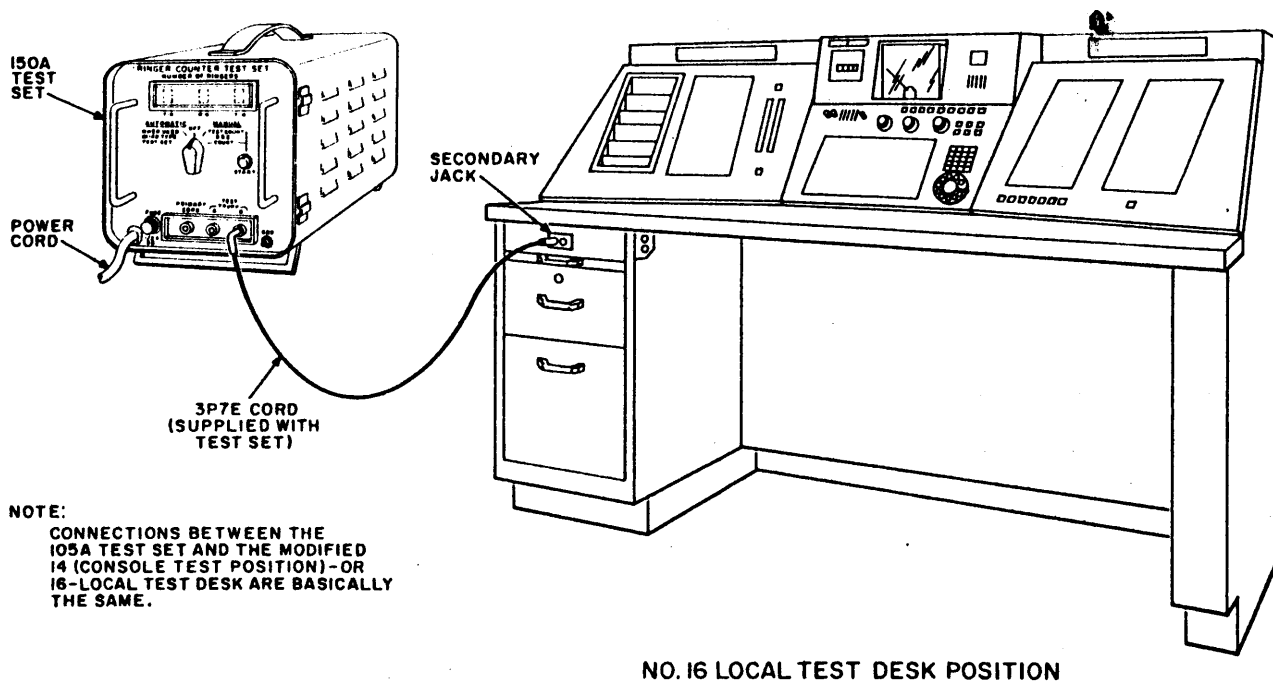

Fig. 10—Typical Connections for 150A Ringer Counter Test Set and 16- or Modified 14-Type Local Test Desk
- 1 Connect 3P7E cord (supplied with RCTS) from TEST TRUNK B on RCTS to secondary (SEC) access test jack on LTD (Fig. 10 and Table A).
1	Connect 3P7E cord (supplied with RCTS) from TEST TRUNK B on RCTS to secondary (SEC) access test jack on No. 16 LTD (Fig. 10 and Table A).  Note: A headset must be plugged into one of the jacks before a test connection can be established.